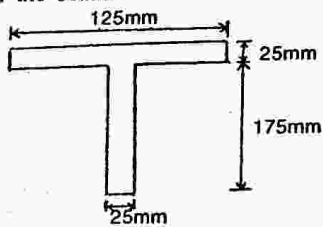

Fig. 4
6. A simply supported beam carries a udl of 30 kN/m over a span of 1.0 m. The cross-section of beam is a 'T'-Section having dimensions as shown in Fig. 4. Calculate the maximum shear stress for the section of the beam. (13)